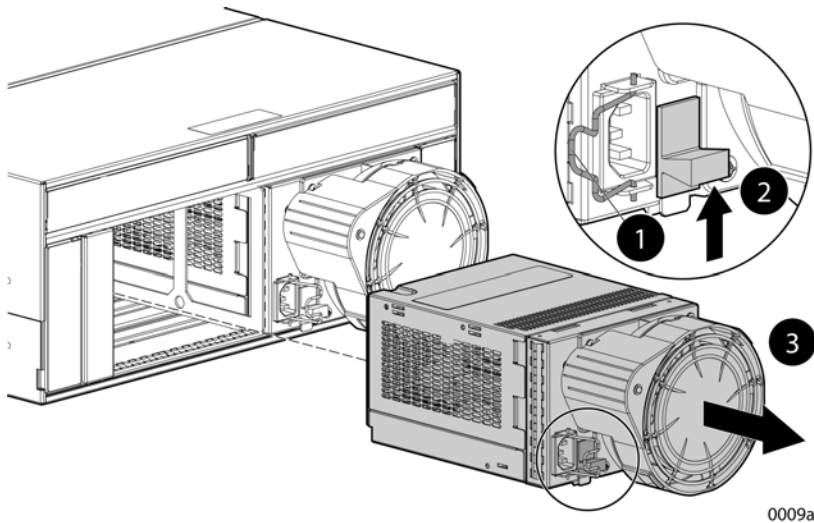

Figure 54 Removing a power supply
1. Disengage the power cord lock (1, Figure 54) and disconnect the power cord from the power supply.